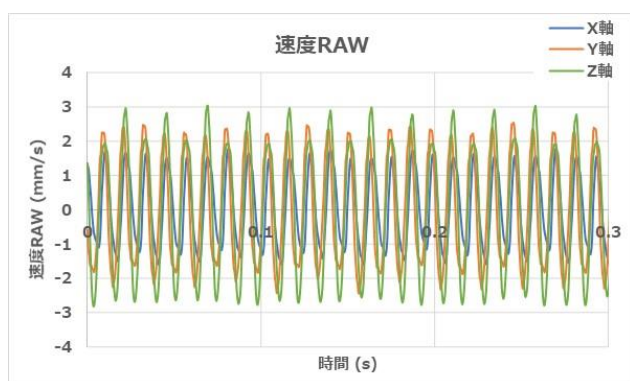

Figure 1.1 A342/A542 Velocity RAW Output
- Figure 1.1 shows an example of the A342/A542 Velocity RAW Output.